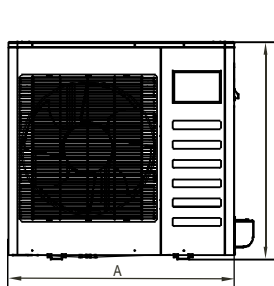

Fig. 6-2
- If possible, please remove the obstacles nearby to prevent the performance from being impeded by too little of air circulation. Refer to Fig. 6-2.